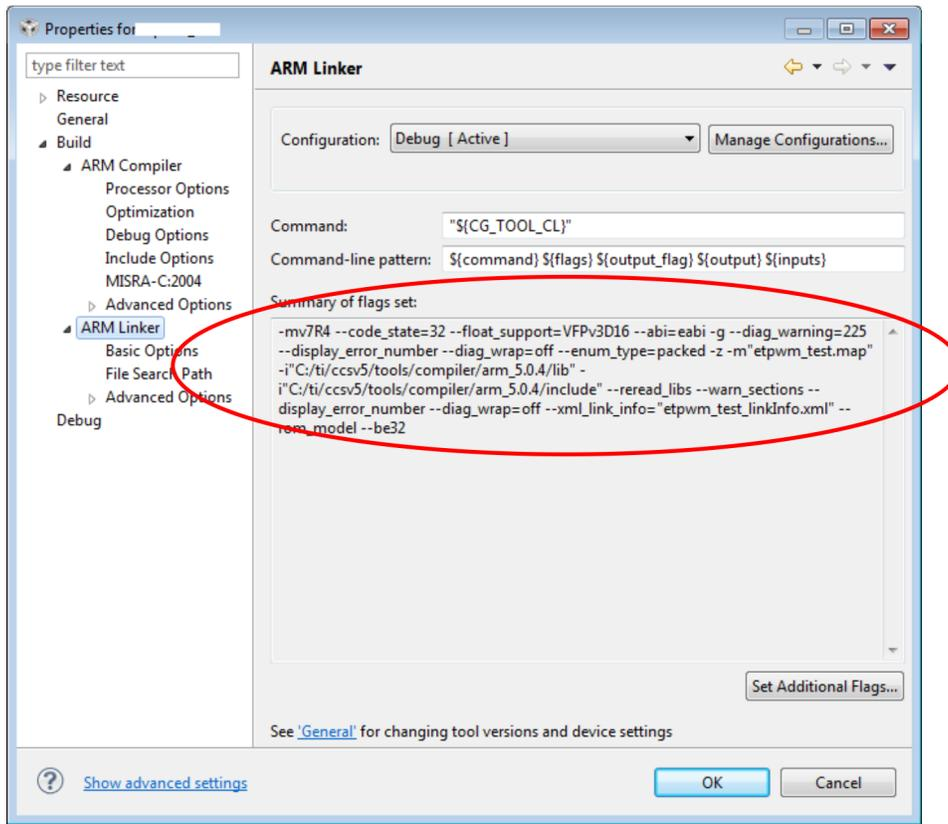

Figure 12. Linker Option Select
2. Select linker option (see Figure 12).